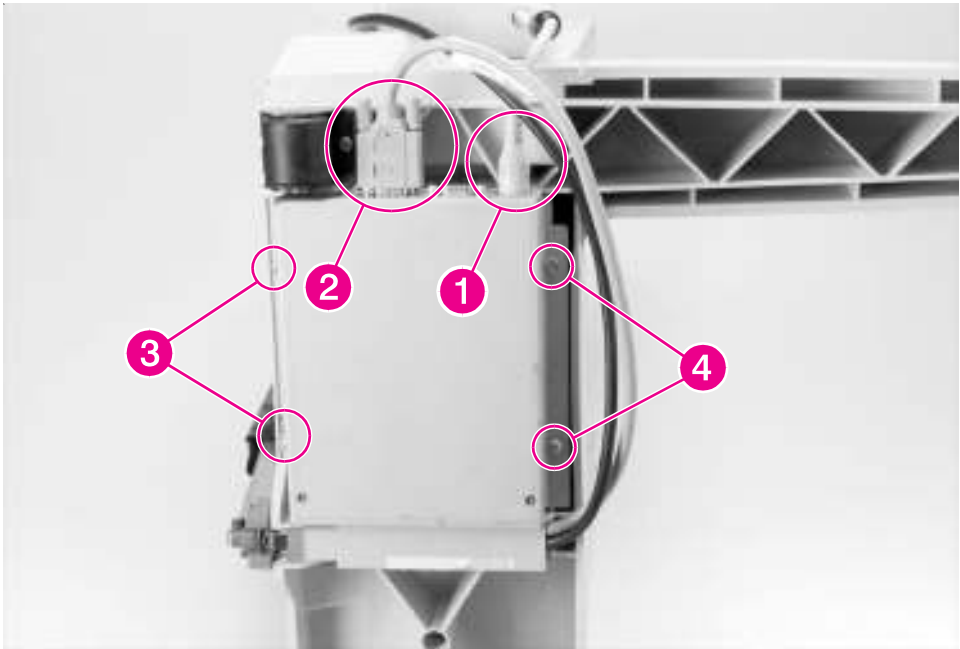

Figure 6-163 8-bin Mailbox Controller PCA (1 of 2)
- 3 Release the Controller PCA Assembly from the bottom of the 8-bin Mailbox frame (see figure 6-163 on page 346, steps 1 through 7).
- 2** Reinstall the 8-bin Mailbox Controller PCA Assembly (see Figure 6-163).
- 2 Locate the power cable that runs from the 8-bin Mailbox Power Supply down to the 8-bin Mailbox Controller PCA, and disconnect the cable from the Controller PCA (Figure 6-163, callout 1).
- 1 Disconnect the power cable and the C-link cable from the 8-bin Mailbox Controller PCA (see Figure 6-163, callouts 1 and 2).